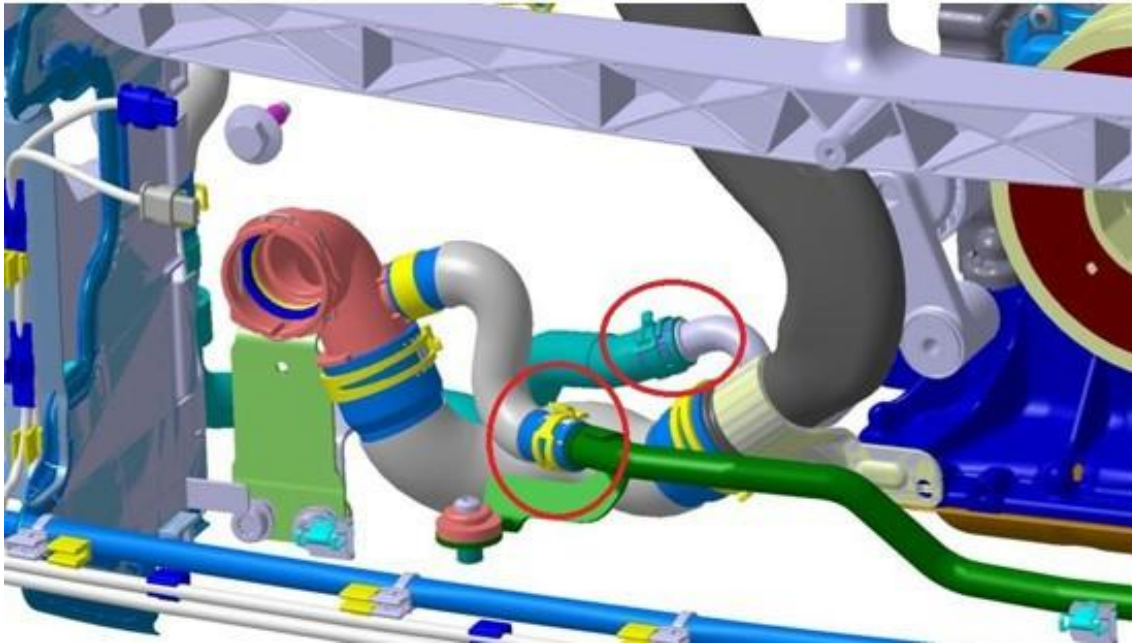

Figure 1. *Coolant hose inspection (correct orientation)*
6. Reconnect hoses in their correct positions as shown in figure 1 & 2.